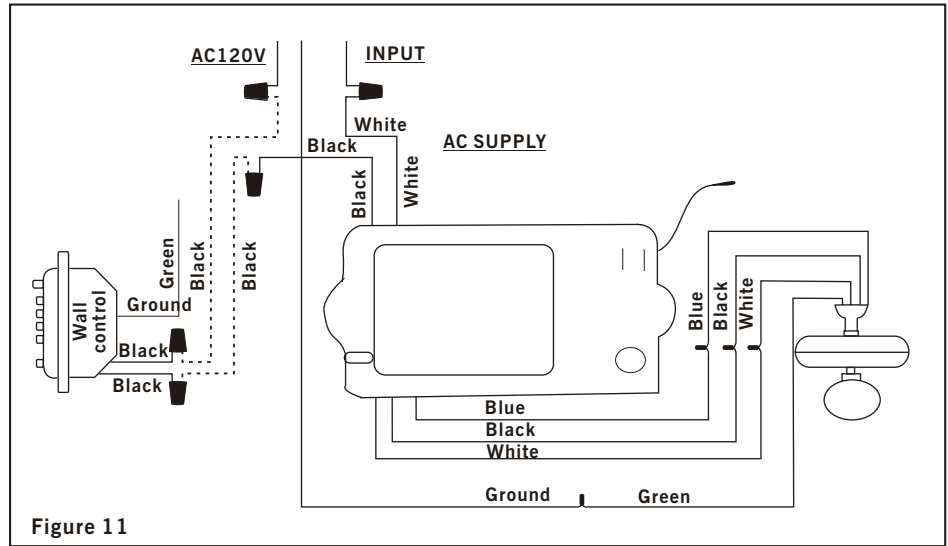

Figure 11
Step 2. Make the electrical connections as shown in (Fig. 11). If your outlet box has a ground wire (green or bare copper) connect the wall transmitter's ground wire to it; otherwise connect the wall transmitter's ground wire directly to one of the screws from the outlet box.